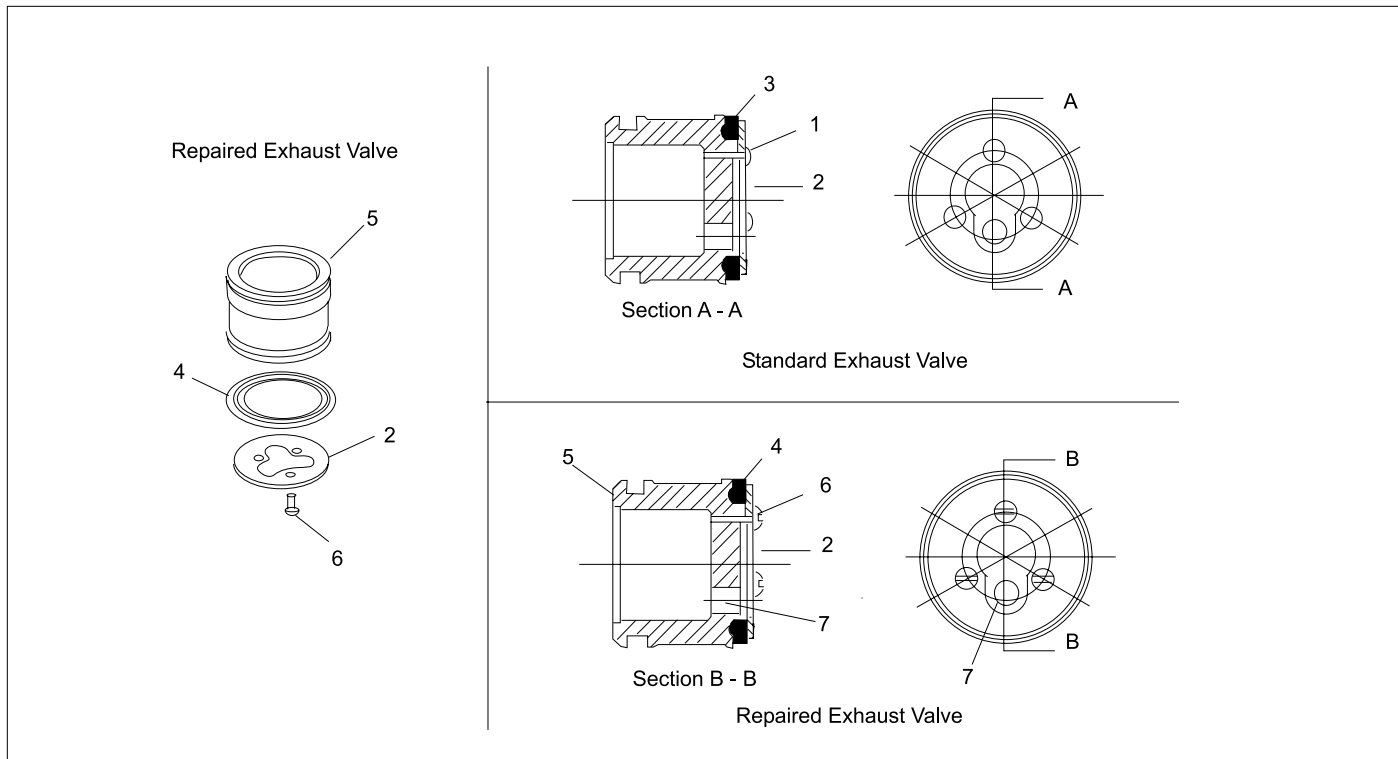

Figure 4 - Exhaust Valve
9.2.3.2 Inspect the seal of the exhaust valve (26). If it is cracked, cut or worn excessively, it MUST BE replaced according to the following procedure. (Figure 4)